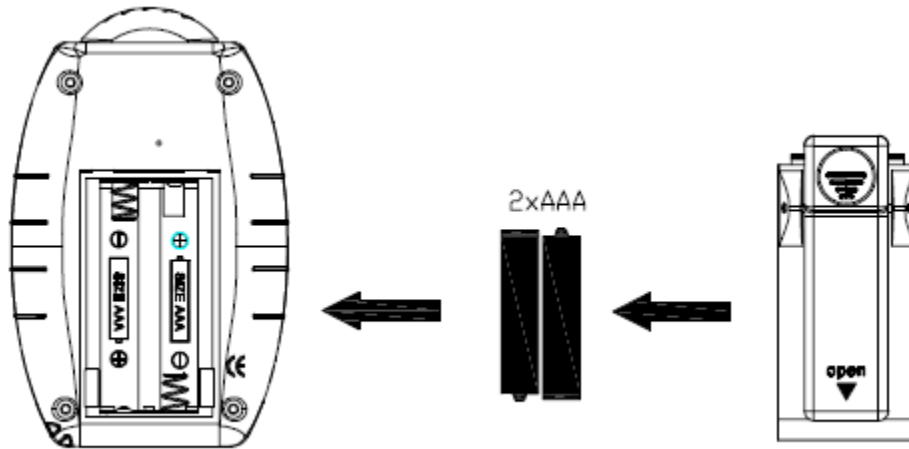

Figure 2
2. Insert two AAA batteries as shown in Figure 2, and close the battery door.